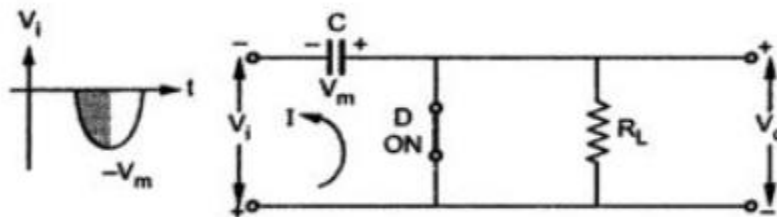

Fig. 2.28 Operation of Positive clamper during first quarter of negative half cycle
- During the first quarter of negative half cycle of the input voltage V_i , diode D gets forward biased and almost instantaneously capacitor gets charged equal to the maximum value V_m of the input signal V_i with the polarities as shown in the Fig. 2.28.
- The capacitor once charged to V_m , acts as a battery of voltage V_m with the polarities as shown in the Fig. 2.28.